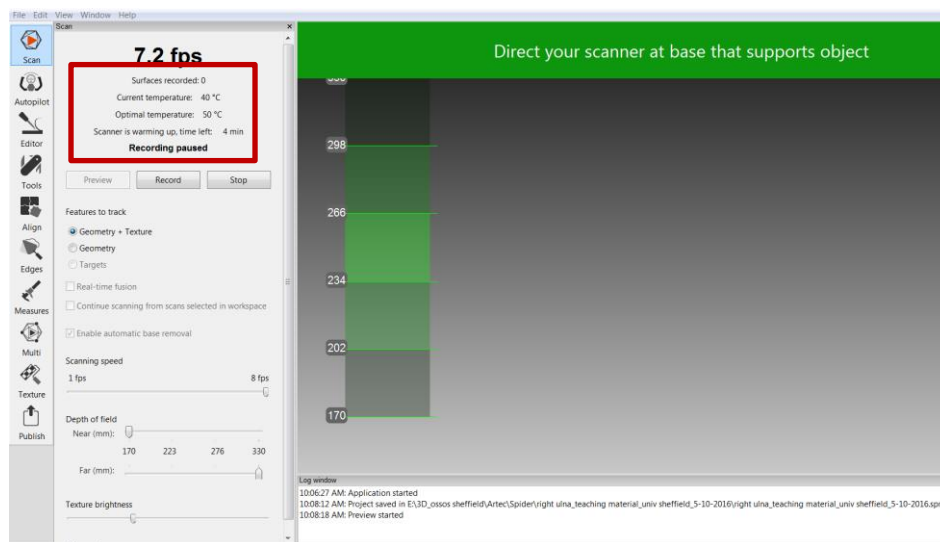

Figure 1. Temperature and warming up time (in red) for Artec Spider scanner.
1. Allow the Artec Spider scanner to quickly warm up in the preview mode for optimum bone scanning (Fig. 1). To select the preview mode, select the scan button located in the left menu bar. You can also select the preview mode directly on the scanner by pushing the button up one time (User Guide Artec Studio 11: 37). Warming up is not required for the Artec Eva scanner.